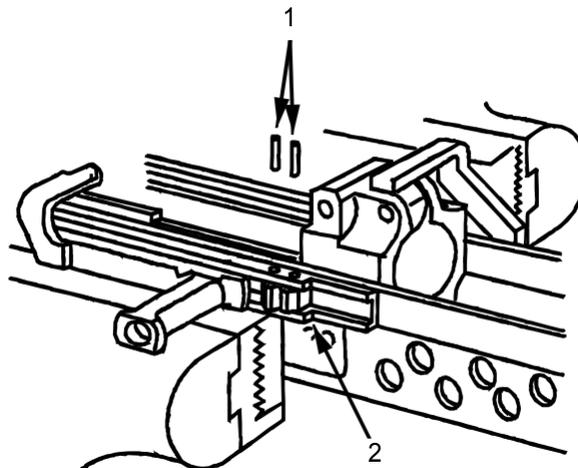

Figure 25. Installation of Spring Pins.
4. Insert two new spring pins (Figure 25, Item 1) into holes of cocking handle channel (Figure 25, Item 2). Drive in the two new spring pins (Figure 25, Item 1) until equal distance above the cocking handle channel (Figure 25, Item 2).